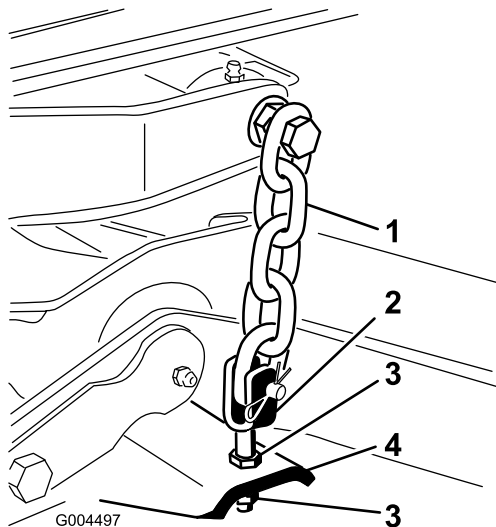

Figure 24
8. Adjust the jam nuts securing the mower yokes/chains to the mower until the mower is level (Figure 24).
7. Adjust the jam nuts securing the rear mower yokes/chains to raise the rear of the mower so that the blade pitch is set to 5/16 inch (8 mm) (Figure 24).